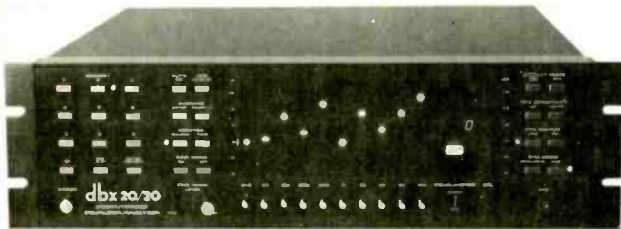
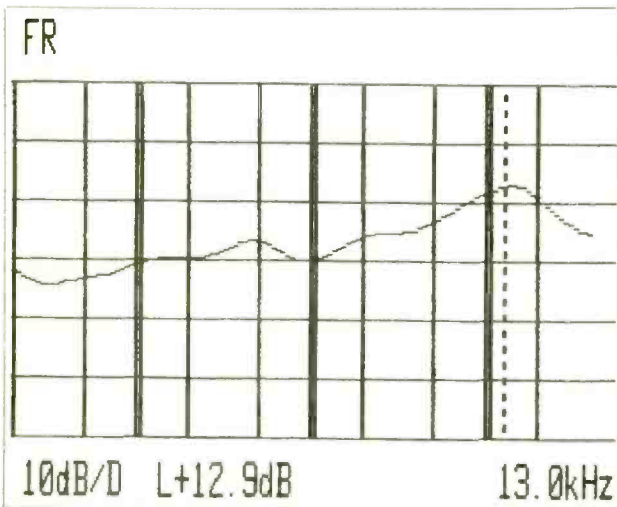
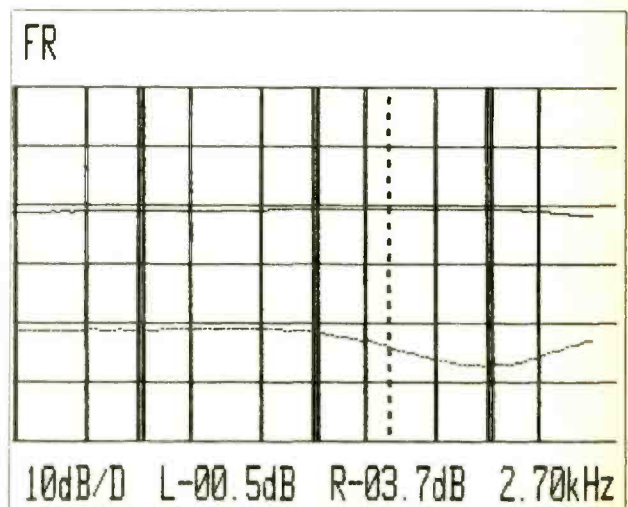

Fig. 1: dbx 20/20: Front panel view.
Fig. 2: dbx 20/20: Typical EQ curve established by the 20/20 for a listening room with less-than-perfect acoustics.
Fig. 3: dbx 20/20: Upper curve shows flat response setting of the unit; lower curve shows response modification by HFR curve.
**Test Results:** A good deal in the way of performance is claimed for the dbx 20/20 by its manufacturer, and it all was confirmed—and then some—in our tests of the unit which included bench-lab measurements and actual use in voicing different rooms fitted with different sound systems. For instance, *Fig. 1* shows the device's front panel with its LED display showing the EQ settings that the 20/20 "decided" were needed for a sound system in a given room, as measured by the device from a location often used for listening. The equivalent response curve of the electronics of that system, with this EQ added, is plotted in *Fig. 2*. A treble boost of 12.9 dB was shown to be needed for "flat" response at that particular listening position.
The upper curve of *Fig. 3* shows the 20/20's flat response. The lower curve here shows how this response may be modified when the HFR (high-frequency rolloff) curve is engaged. The rolloff begins above 2 kHz and continues at a gentle slope to beyond 10 kHz. (Vertical sensitivity in *Fig. 3*, as well as in *Figs. 2* and *4*, is 10 dB per division.) This HFR curve is what sound contractors refer to as a "house curve"—house, meaning large halls and auditoriums. In such a listening environment, if we sit in the reverberant (rather than the direct sound) field, the frequency response we hear is actually not flat. Instead, it exhibits a gradual rolloff at the high end, since a significant portion of the highs is absorbed by architectural surfaces. The HFR curve in the 20/20 is designed to simulate that effect, and so more closely resemble the overall balance likely to be heard at a "live" concert, when it is desired.